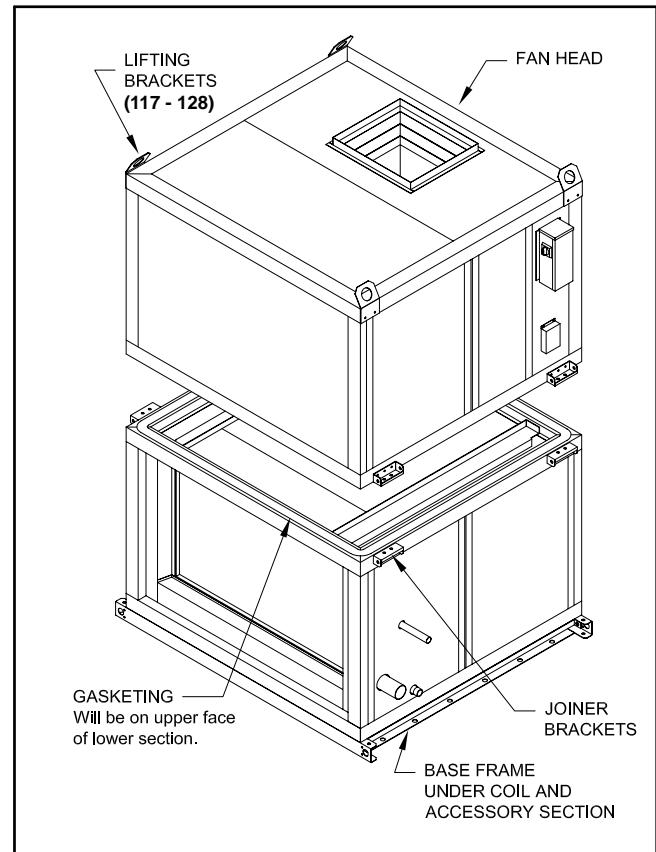

Figure 4
4. Models 137 thru 182 come with lifting gussets located in the base frame. Fig.4